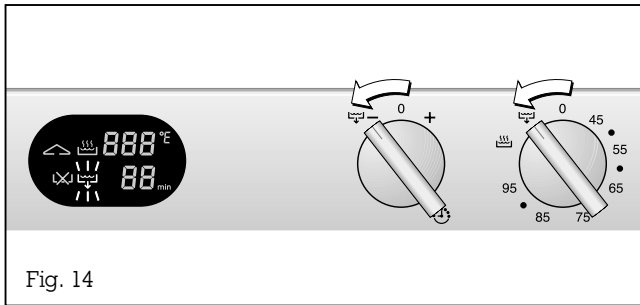

Fig. 14
- Turn the "Short time" control knob to the left to the position and hold the knob in this position (Fig. 14).